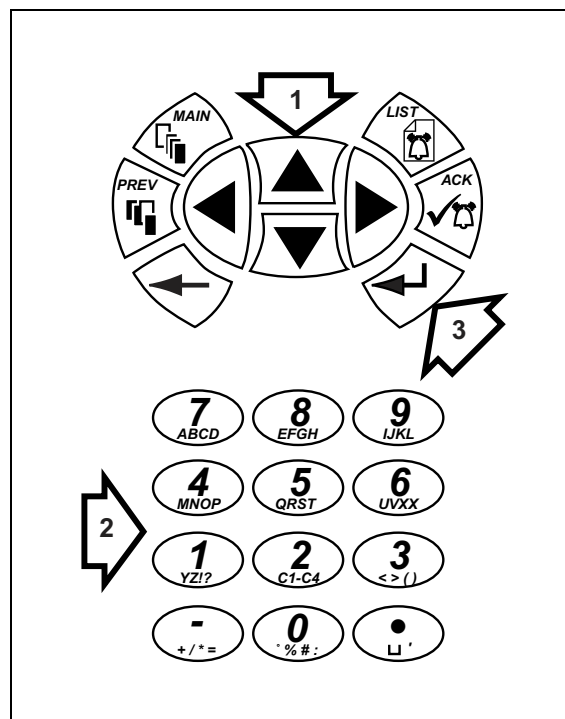

Figure 7-3: Keys
1. Highlight a field using the directional arrow keys (#1 on Figure 7-3).
1. Press the **MAIN** key in the Built-In Function Keys (Figure 7-3). The Main Screen displays.
5. Press the directional arrow keys (Figure 7-3) to highlight the data field to be added or modified.
6. Use the alpha/numeric keys (Figure 7-3), to enter the setting for the parameter selected.
7. Press the **Enter** key (Figure 7-3).